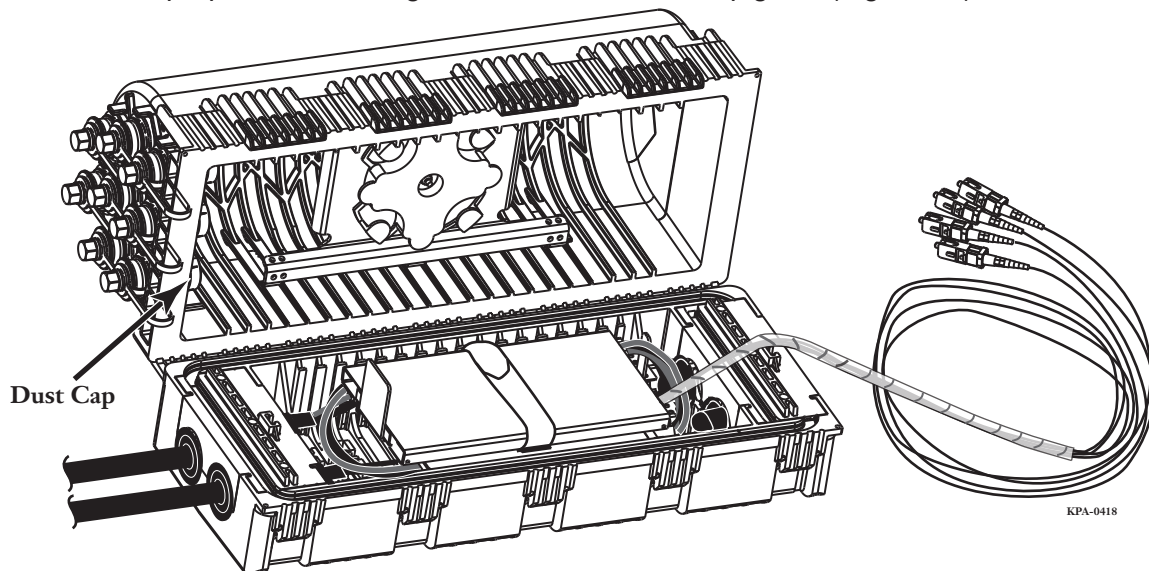

Figure 44
**Step 1:** Inside the cover, remove the dust caps from the OptiFit adapters as they are prepared for mating with the connectorized pigtails (Figure 44).